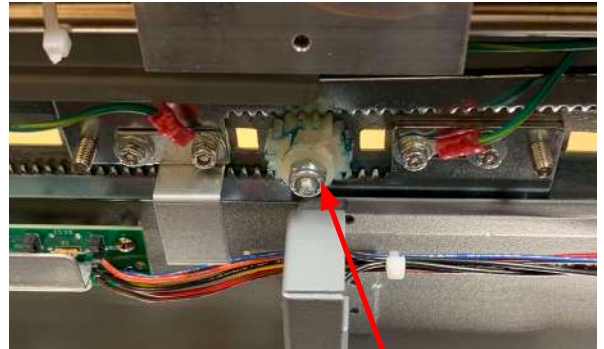

Fig. 54
4. Remove the 11/32" nut (Fig. 54) holding the self-centering gear and remove the gear.